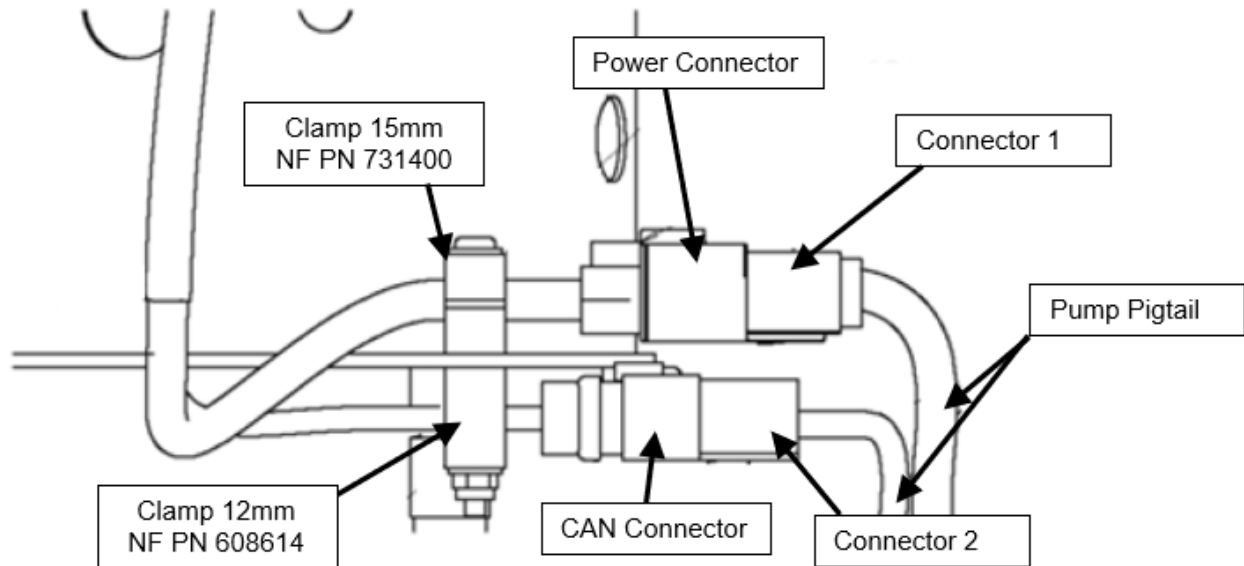

Figure 5: Connector Locations for Heat Shrink Application
12. Secure the connectors horizontally using clamps (NF 731400) & (NF 608614). See Figure 5.
16. Carefully de-pin connector "MCP PUMP – P25" (Power Connector) in Figure 5, discard connector along with the rubber boot. Retain the cavity plug from the unused cavity.
19. Carefully depin connector "MCP PUMP – P26" (CAN Connector) in Figure 5, discard connector along with the rubber boot. Retain the cavity plug from the unused cavity.
22. Secure the connectors horizontally using clamps (NF 731400) & (NF 608614). See Figure 5.